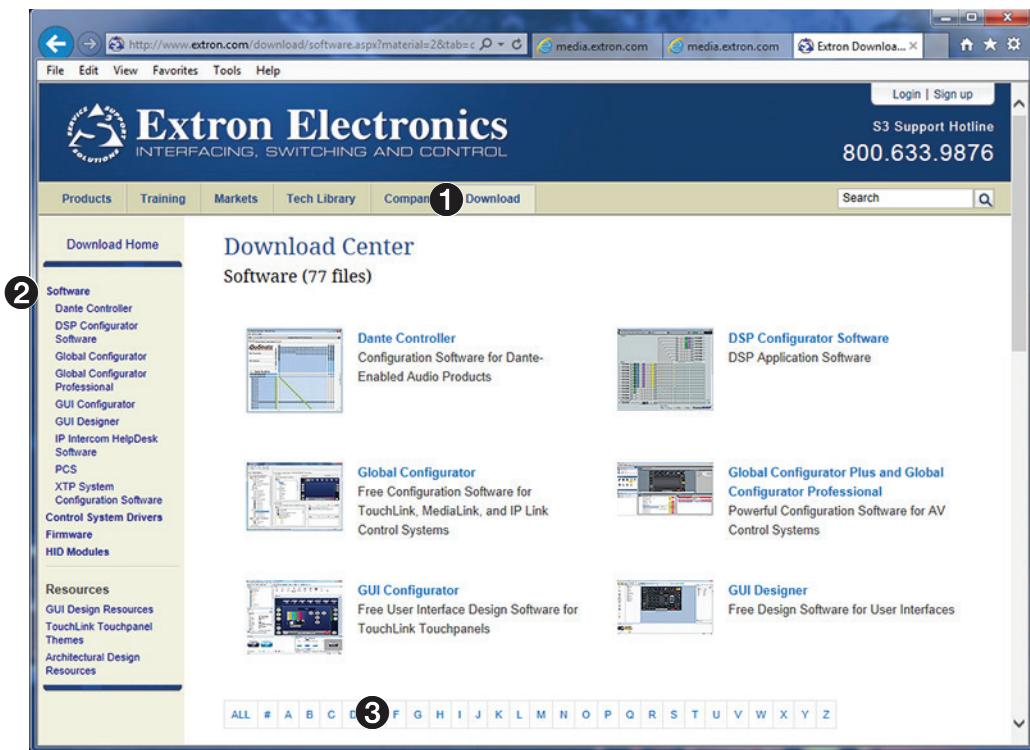

Figure 16. Locating Firmware Loader Software
1. On the Extron website, click on the **Download** tab (see figure 16, ①).
2. On the left sidebar, click on **Software** link (②).
3. On the bottom of the page, click on the **F** link (③).